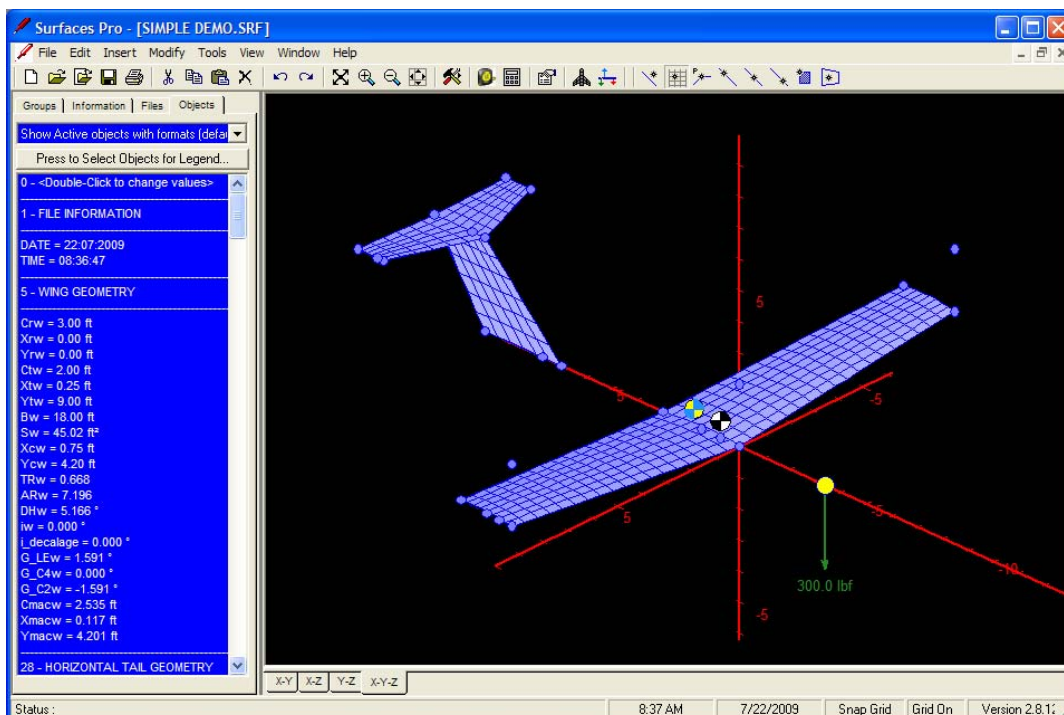

Figure 9-1: The model after Step 9.2.
STEP 9.2 Select the X-Y-Z view and orient the airplane similar to what is shown in Figure 9-1.